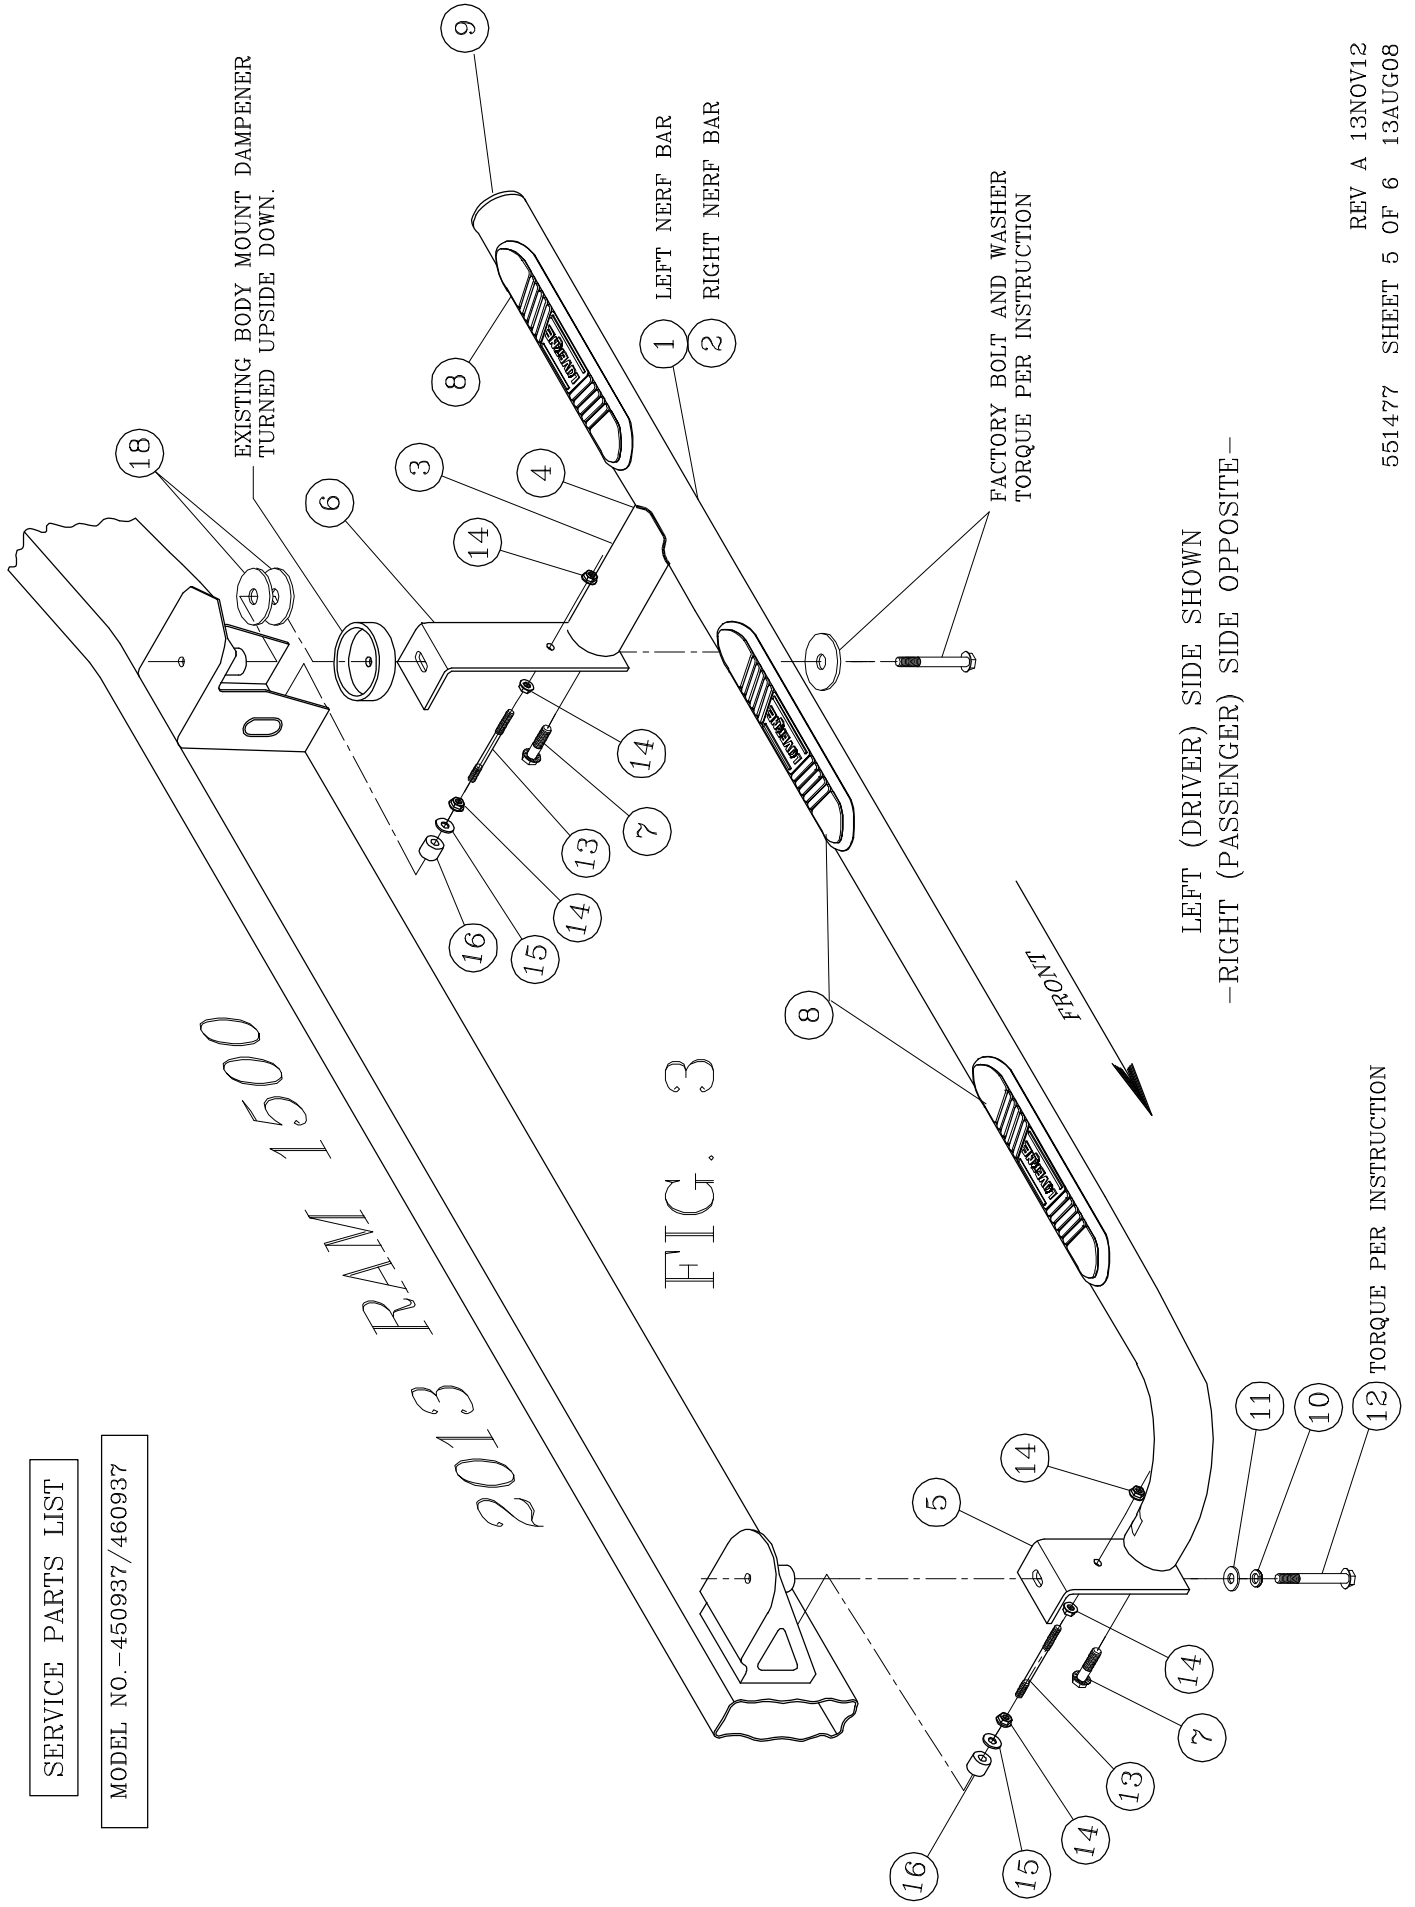

FIG. 3
- 5.3. **2013-** ON THE REAR BODY MOUNT FLIP THE CAST IRON BODY MOUNT DAMPENER OVER AND INSTALL TWO 3/4" FLAT WASHERS INSIDE THE DISH OF THE DAMPENER, PLACE THE FACTORY BODY MOUNT BOLT AND WASHER THROUGH THE NERF BAR BRACKET THEN THROUGH THE DAMPENER, AND 3/4" WASHERS AS SHOWN IN **FIG. 3 OR 4.**